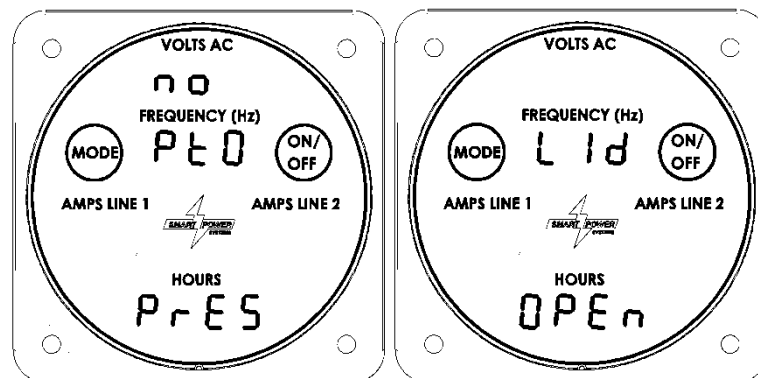

Figure 15 – Low Hydraulic Pressure and Lid Open
5. Whenever the PTO is engaged and the system controller is in Normal or Quiescent mode, the generator can be switched from an “off” state to an “on” state, and vice-versa, by pressing the “on/off” switch on the Command & Control Center. If the PTO is not engaged, the hydraulic pressure is too low (under 150 PSI) the generator will display nO PtO PrES. If the generator enclosure cover is not closed when the “on/off” switch is pressed, LId OPEn will be displayed (reference Figure 15):